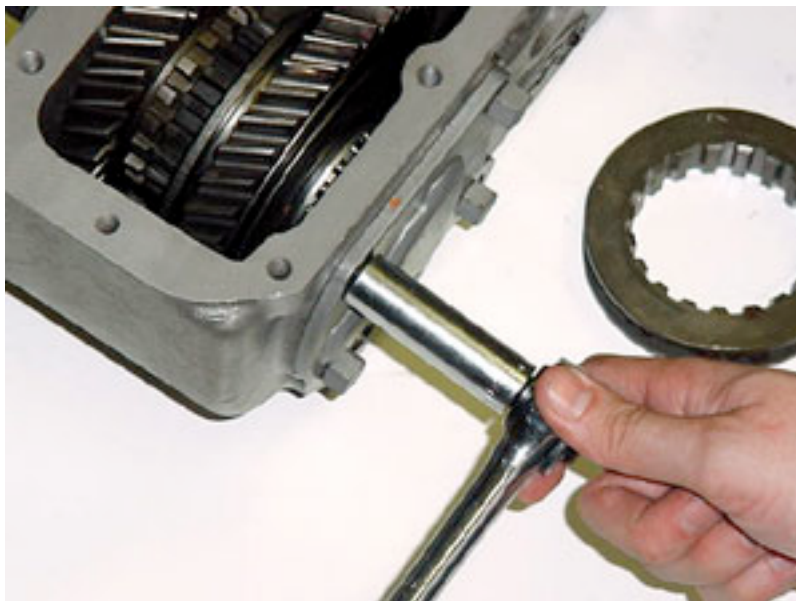

FIG: 6
6) Remove the rear bearing retainer plate and shims from the case followed by the bearing cup (Fig.6).